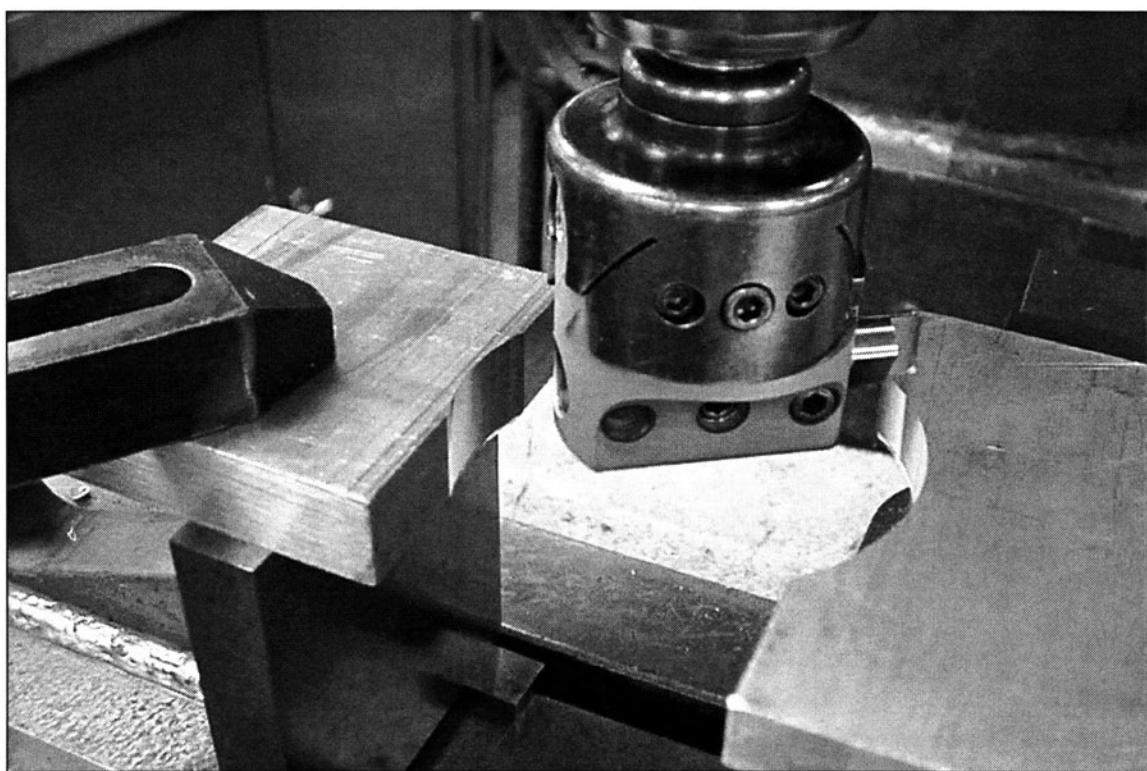

FIGURE 6-21 A piece of material is clamped opposite the partial hole so the ID can be measured.
30. *To bore and measure a partial hole, clamp a piece of material opposite the partial hole. (See Fig. 6-21)*